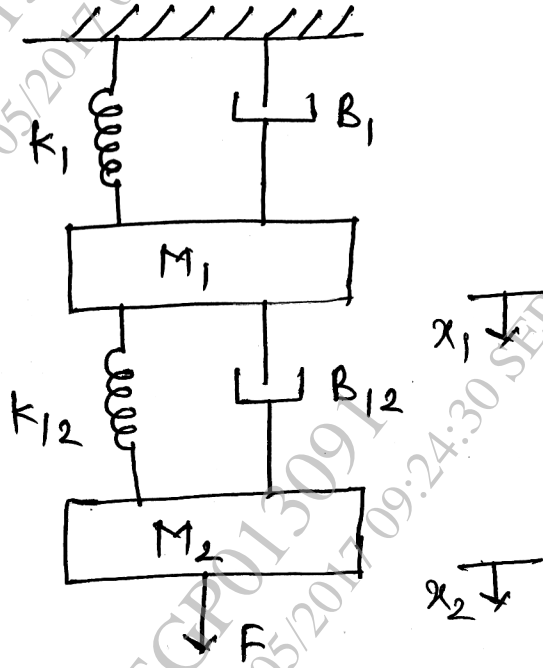

Fig. 1
2. (a) Determine the transfer function $\frac{X_2(s)}{F(s)}$ for the system shown in Fig. 1 : [6]